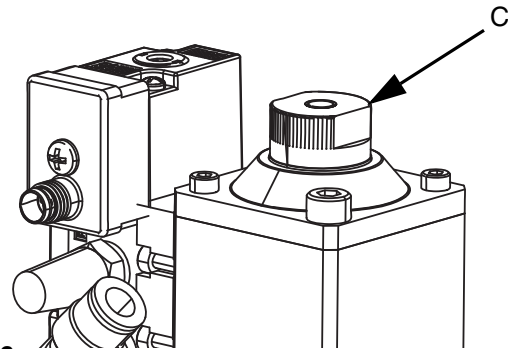
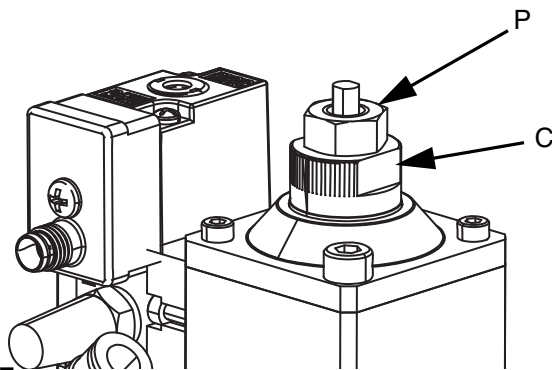

FIG. 6
FIG. 7
The Adjustment Nut (C) on the top of the valve can adjust the distance the dispense valve will open. This restricts the flow of material through the tip and seat. See FIG. 6.
1. Turn the Adjustment Nut (C) clockwise until the valve is held closed. See FIG. 6. For snuff-back valves, turn the Adjustment Nut (C) counterclockwise to reduce the distance the valve opens. See FIG. 7.
2. Slowly open the Adjustment Nut (C) and then cycle the air pressure until the desired flow is reached.
3. If your valve has a snuff-back tip, tighten the Lock Nut (P) to hold the Adjustment Nut (C) in place. See FIG. 7.